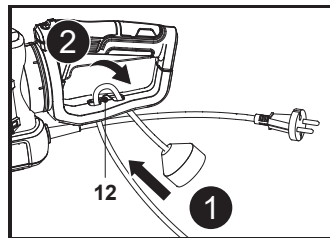

Fig. 2
1. Double the extension cord back, about 20 cm from the end and lead the loop through the hole of the cord retainer (12) and hang the loop over the hook (Fig. 2, steps 1, 2).